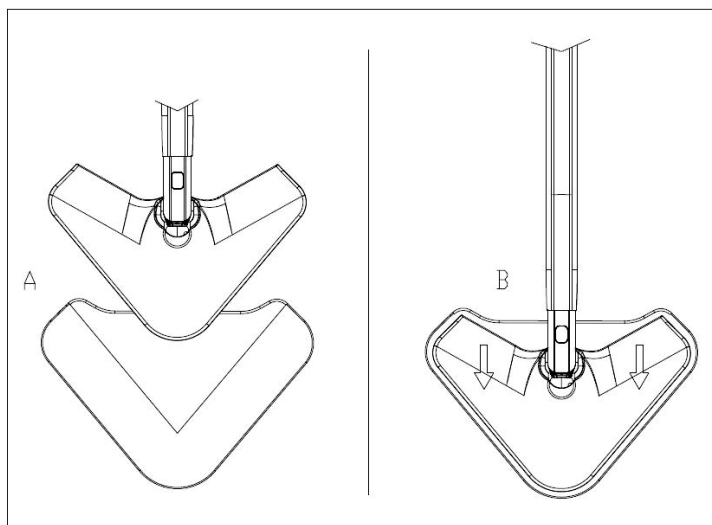

FIGURE 3
2. Align Mop Head above Microfiber Pad. Make sure Mop Head is oriented with pad as shown, and centered as best as possible (FIGURE 3-A).
3. Fastener strips will adhere to pad grips on underside of Mop Head. Microfiber Pad should now be attached and ready for use (FIGURE 3-B).